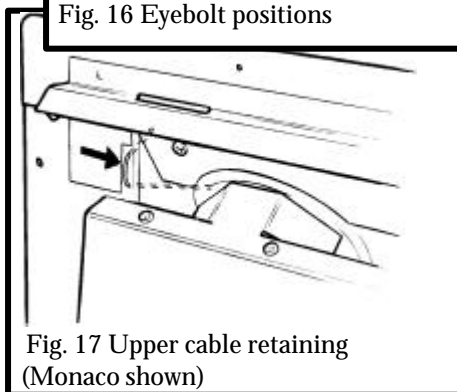

Fig. 17 Upper cable retaining (Monaco shown)
7.2.4 The convection box has two holes at each side of the convected air opening. Insert one end of each cable (one cable each side) from the back through the lower of the two holes and return the end through the upper of the holes (see figure 17). Give the cables a pull so that they grip against the convection box flanges.